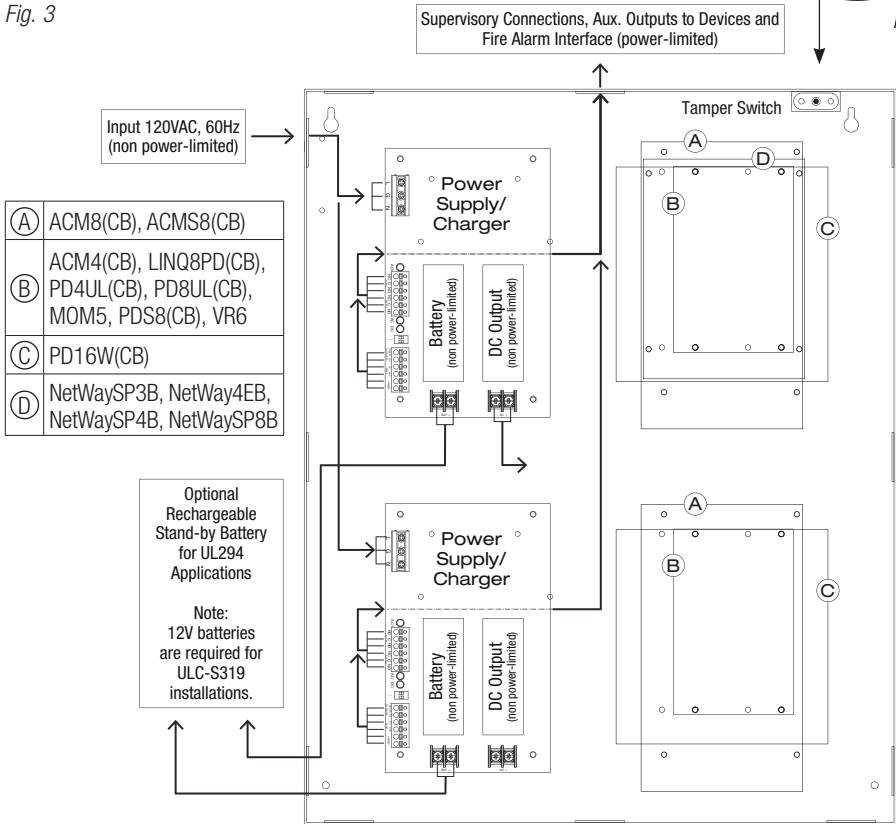

Fig. 3a
12. For Access Control Applications: mount UL Listed tamper switch (Altronix Model TS112 or equivalent) at the top of the enclosure. Slide tamper switch bracket onto the edge of the enclosure approx. 2" from the right side (Fig. 3a, pg. 7). Connect tamper switch wiring to the Access Control Panel input or the appropriate UL Listed reporting device.